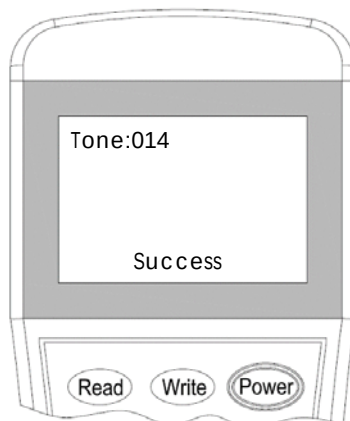

Fig.9 Alarm sound setting
4. Exit the programming tool to the main menu and then press button **"4"** to set alarm sound type. Input the desired tone type from 1 to 16 and then press **"Write"** to save the new tone, as shown in Figure 9.